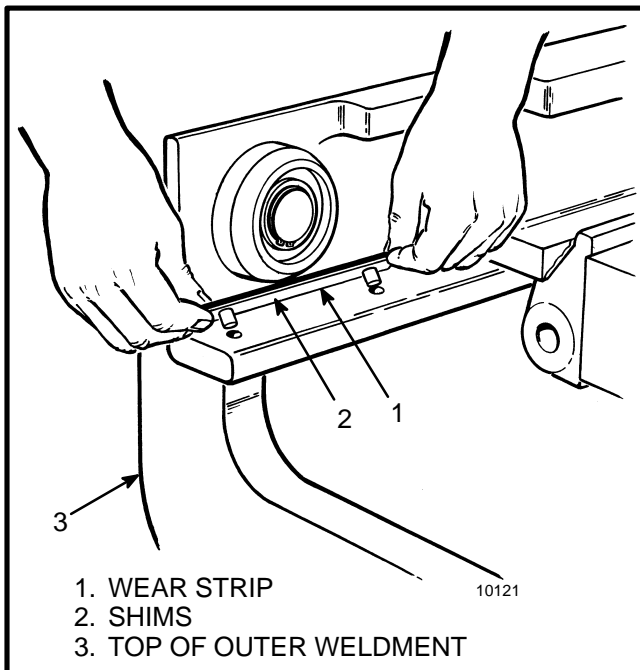

FIGURE 6. STRIP BEARINGS
The tilt cylinders (FIGURE 2. through FIGURE 6.) are
3. See FIGURE 2. through FIGURE 6. Disassemble the tilt cylinder as necessary.
8. Remove the strip bearings from the outer weldment. See FIGURE 6. Make a note of the shim arrangement during removal of the strip bearings.